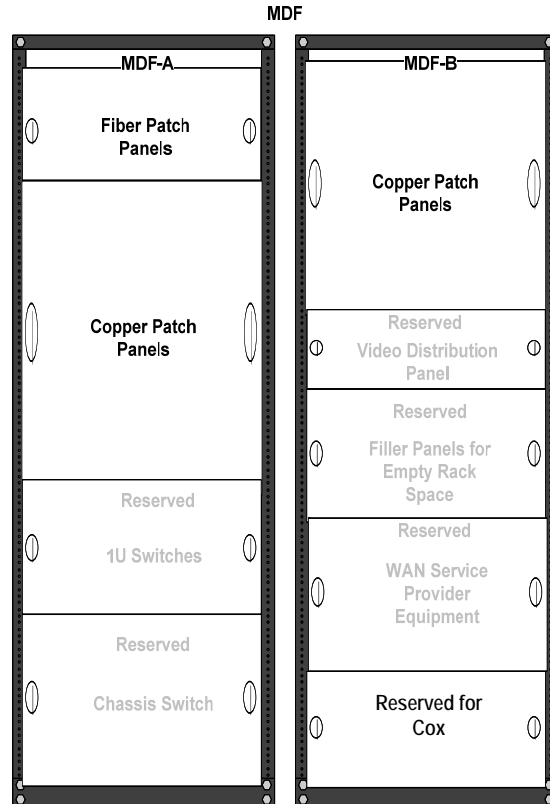

Figure 2 – Typical Configuration of “MDF” Network Equipment Rack
- 8) All copper and fiber patch panels will be located in MDF-A, but larger schools will require some copper patch panels to be placed in MDF-B to accommodate all equipment listed in the rack order of Figure 2.
- 10) All MDF equipment will be rack mounted in the order as specified in Figure 2 below.
4. All MDF equipment racks will have a visible label using the following convention: “MDF-A” which would represent equipment rack A and “MDF-B” would represent equipment rack B and so on as shown in Figure 2.